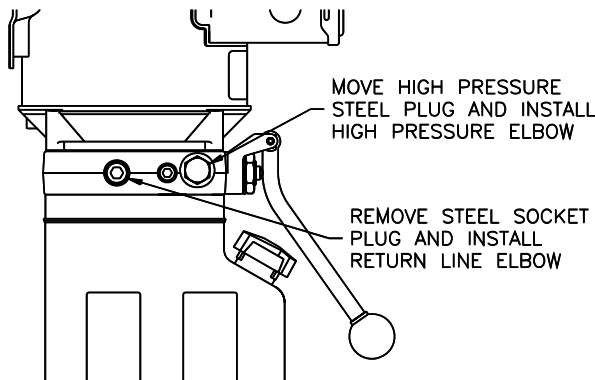
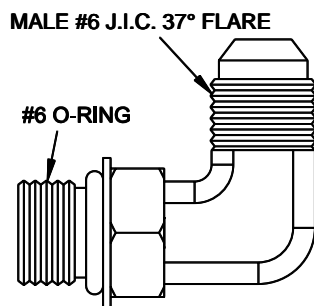
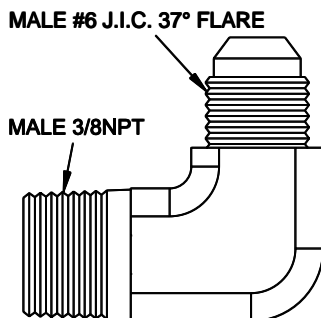

Fig. 3 – Power Unit Fittings
Fig. 4 – High Pressure Line Elbow
Fig. 5 – Return Line Elbow
- 4) Remove the high pressure port steel plug (#6 O-Ring port) from the left side of the valve block and reinstall in the right side in place of the plastic shipping plug, **Fig 3**. Install the 90 degree high pressure line adapter, **Fig 4**, into the left side of the valve block (#6 O-Ring port).
- 5) Remove the 3/8NPT steel hex socket plug from the left side of the valve block, **Fig 3**, and discard. Install the 90 degree return line adapter elbow, **Fig 5**, (male 3/8NPT x male #6 J.I.C. 37° flare) to the return port on the power unit (3/8NPT).